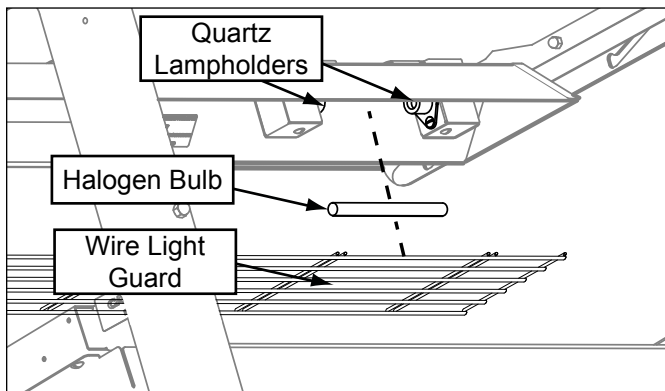

Figure 4. Replace Halogen Bulb
4. Gently, but firmly, press the lamp sideways and remove the Halogen Bulb from the Quartz Lampholders (Figure 4).